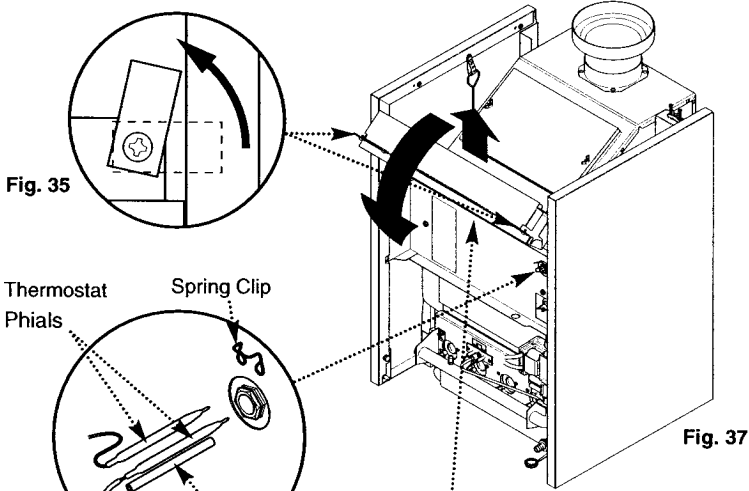

Fig. 35
1. Swivel the two retaining plates through 90°. Lift the control box slightly and allow it to hinge forwards. Undo the two retaining screws and remove the cover panel (Figs. 35 & 37).